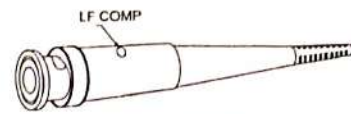

Fig.5-2
- (5) Observe whether the compensation is proper. If not, adjust the probe compensation component shown as Fig. 5-2.
- (6) Set the vertical mode to CH2, and connect 10:1 probe to CH2. Check and adjust CH2 probe according to the step 2 to 5.